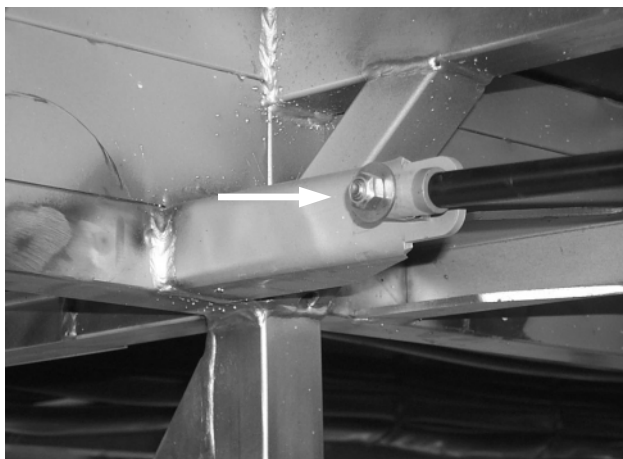

Figure 7: Spring to chassis bracket installation
- 6) At the chassis bracket, undo and remove the nut and washer securing the spring to the coach frame (see Figure 7). Remove the spring from the coach.